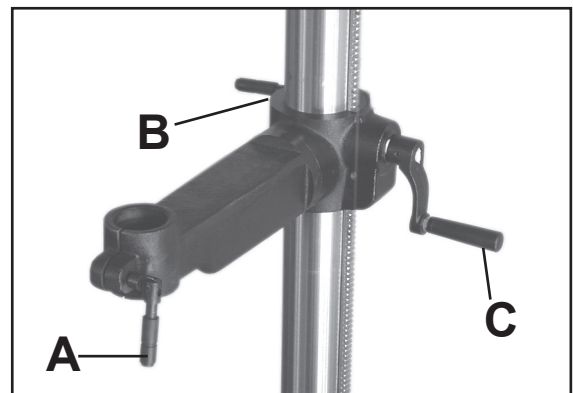

Figure 18
3. Tighten the locking lever (A-Fig. 18) onto the table support bracket (B-Fig. 18) and install the table raising/lowering handle (C-Fig. 18).